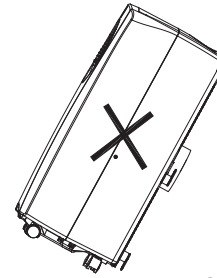

FIG. 1
- Only use in the upright position on a flat level surface and at least 36 cm from any objects (fig 1 & 4).